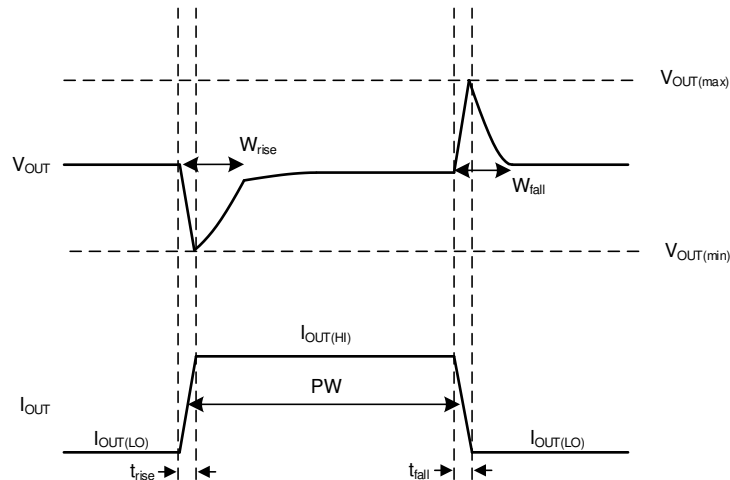

Figure 8-10. Simplified Load Transient Waveform
The transient response peaks ($V_{OUT(max)}$ and $V_{OUT(min)}$) are improved by using more output capacitance; however, doing so slows down the recovery time (W_{rise} and W_{fall}). Figure 8-10 illustrates these parameters during a load transient, with a given pulse duration (PW) and current levels ($I_{OUT(LO)}$ and $I_{OUT(HI)}$).